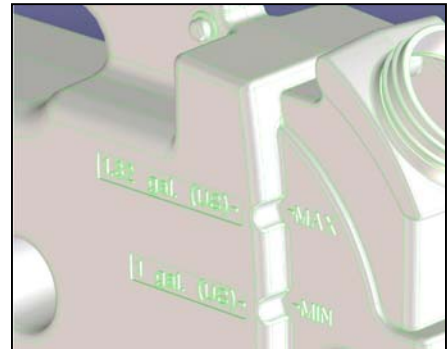

Fig. 6
- The reagent bottles are marked with two filling lines (fig. 6). The lower mark corresponds to 3,8 l (1 US gallon), the upper one is for 5 l (1,32 US gallons).